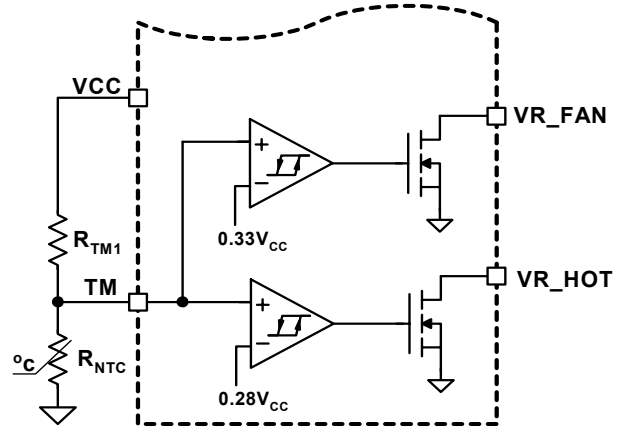
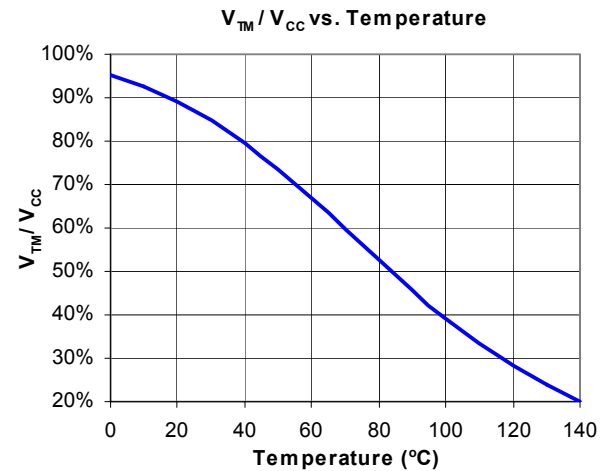

FIGURE 15. BLOCK DIAGRAM OF THERMAL MONITORING FUNCTION
FIGURE 16. THE RATIO OF TM VOLTAGE TO NTC TEMPERATURE WITH RECOMMENDED PARTS
The diagram of thermal monitoring function block is shown in Figure 15. One NTC resistor should be placed close to the power stage of the voltage regulator to sense the operational temperature, and one pull-up resistor is needed to form the voltage divider for TM pin. As the temperature of the power stage increases, the resistance of the NTC will reduce, resulting in the reduced voltage at TM pin. Figure 16 shows the TM voltage over the temperature for a typical design with a recommended  $6.8\text{k}\Omega$  NTC (P/N: NTHS0805N02N6801 from Vishay) and  $1\text{k}\Omega$  resistor RTM1. We recommend using those resistors for the accurate temperature compensation.
Based on Vcc voltage, ISL6307 converts the TM pin voltage to a 6-bit TM digital signal for temperature compensation. With the non-linear A/D converter of ISL6307, TM digital signal is linearly proportional to the NTC temperature. For accurate temperature compensation, the ratio of the TM voltage to the NTC temperature of the practical design should be similar to that in Figure 16.
1. Properly choose the voltage divider for TM pin to match the TM voltage Vs temperature curve with the recommended curve in Figure 16;